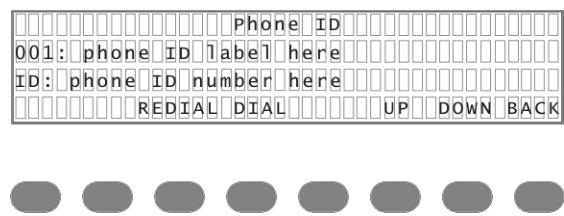

FIGURE 113. Phone ID Call List Menu
The **PHN (phone)** call list menu is used to dial a phone ID from the directory, see Figure 113.
Placing a call is accomplished in one of two (2) ways, manually from the DTMF keypad or from a preprogrammed directory accessed from the call list menu, see Figure 113.